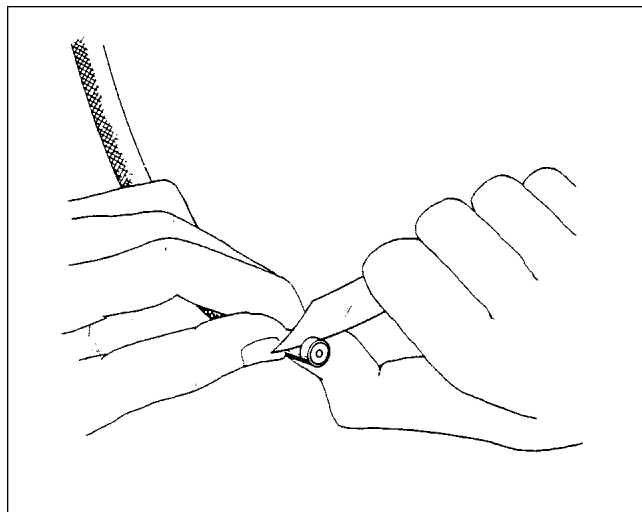

Figure 8-23. Cutting Insulation
- B. Trim the end of the coiled conductor to make a clear hole for inserting the stud. Refer to Figure 8-23.